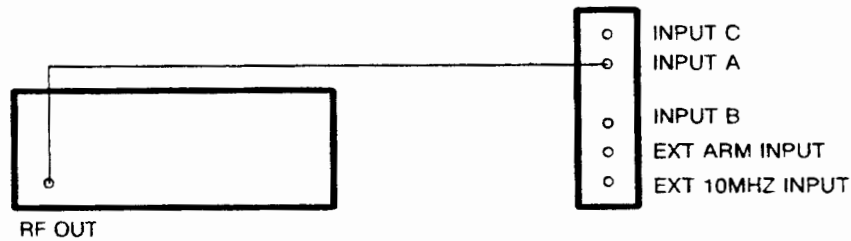

Figure 5-12. Input A Filter Check Configuration
2. Connect the counter to the signal generator as shown in Figure 5-12.